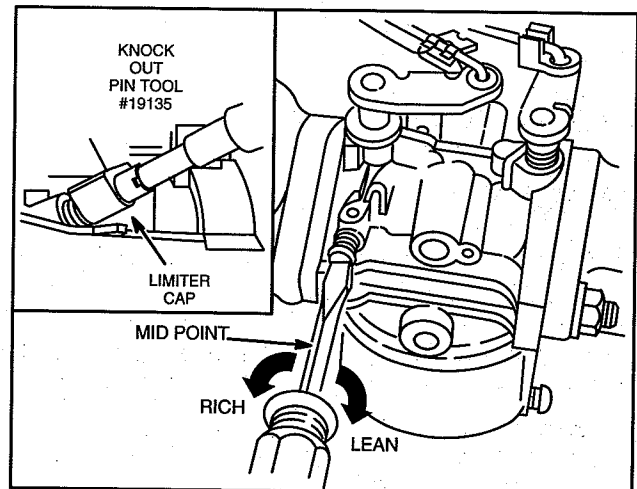

Fig. 25 – Adjusting Idle Mixture
4. Turn idle mixture screw to mid point between rich and lean, Fig. 25.
- a. Position limiter cap so that stop(s) on limiter cap are at mid point between stop(s) on carburetor body and press into position as shown in Fig. 25.